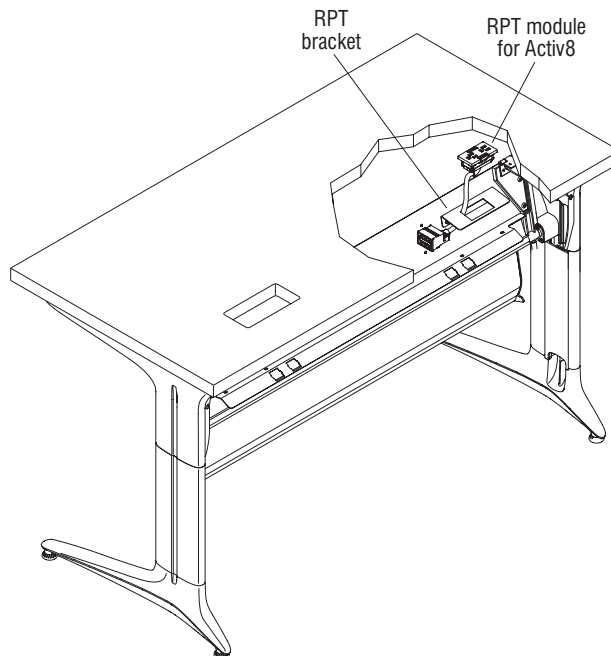

Figure 5
4. Feed the connector end of the RPT module for Activ8 through the rectangular opening in the bracket and snap the module into place (Figure 5).